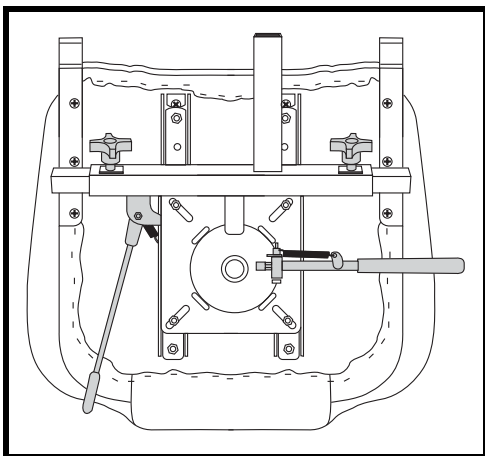

Figure 18. Seat Height Adjustment
2. Place the seat upside down so that you can see the bottom of the seat base. See figure 18.